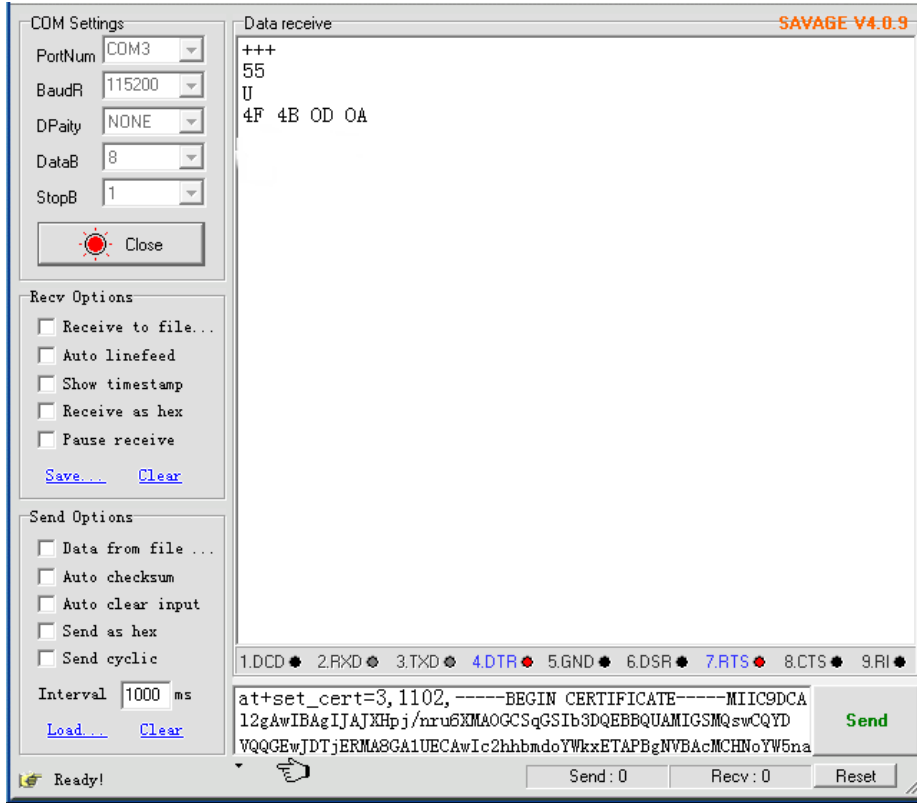

Figure 2-2
- 3) As an example, Figure 2-2 shows how to set up the SSL CA Certificate